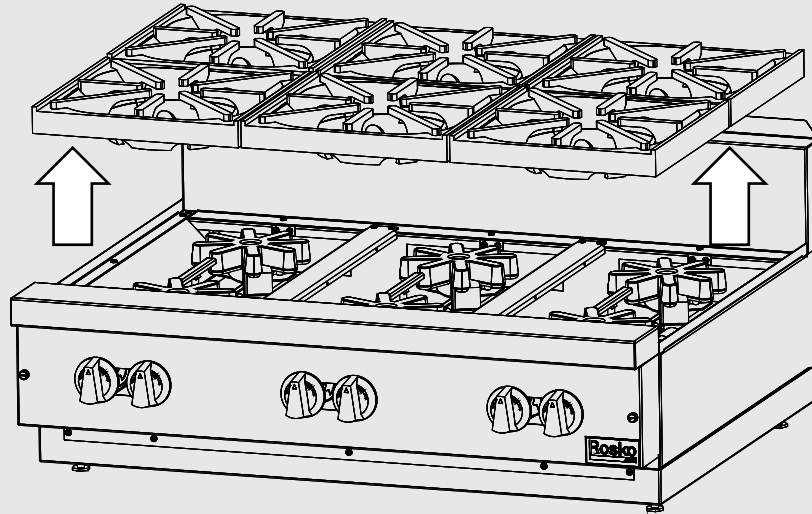

Figure 1
1. To change the gas injector, first remove the cast-iron grates from the range to reach the burners. **(Figure 1)**